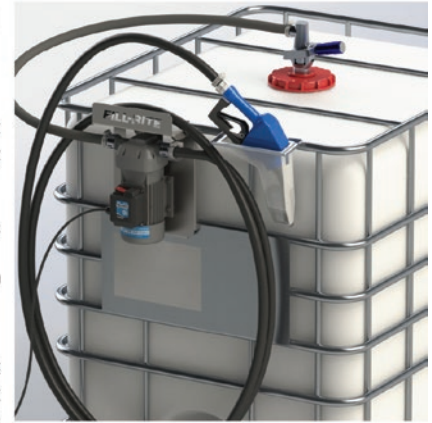

Figure 6b
8. Wrap Discharge Hose around the Pump Bracket behind Fill-Rite Ledge. Final installation should look like the image below (Figure 6b):